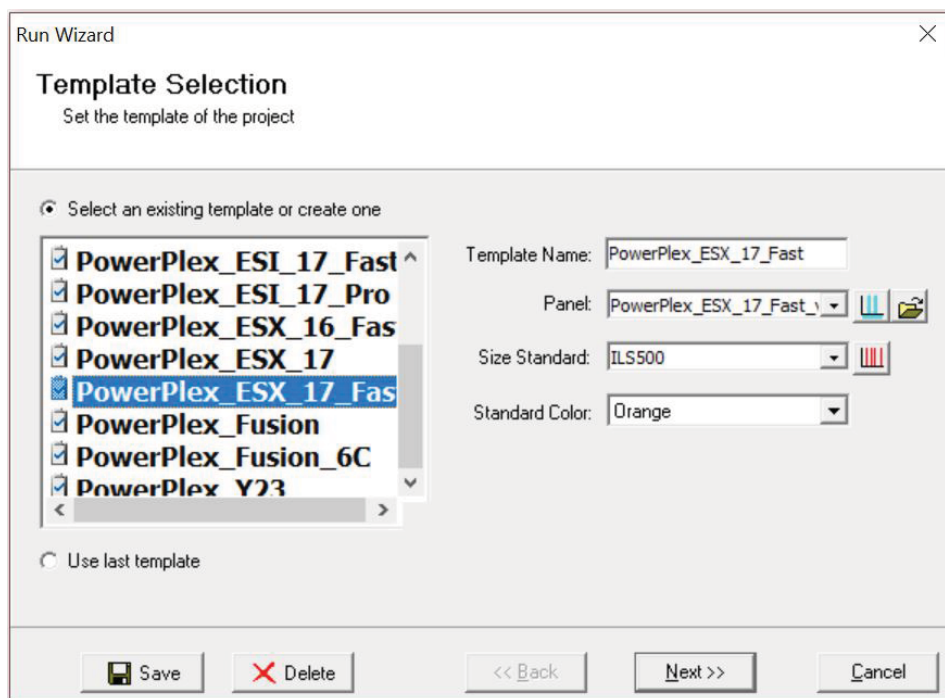

Figure 28. The 'Template Selection' window.
- Click on **Run** in the Magic Wizard or click the **Run Project** icon (green arrow) in the toolbar. The 'Template Selection' screen will appear (Figure 28). Select the PowerPlex_ESX_17_Fast template and the settings shown in Figure 28. Verify the panel that you created in Step 6 is selected in the Panel drop-down field. The Size Standard must be ILS500 and the Standard Color must be Orange. Select **Next**.